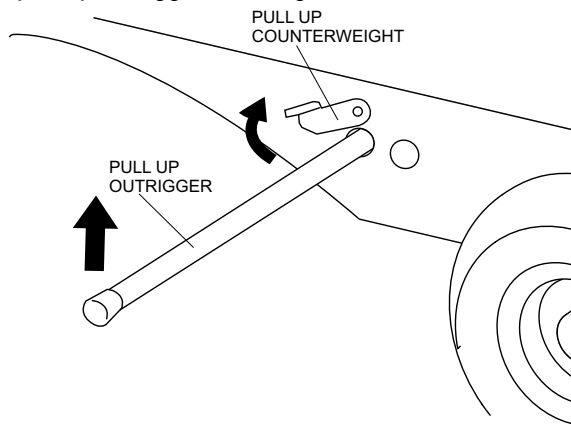

Figure 16. Stowing Outrigger
1. Pull up the counterweight to unlock the outrigger and pull up outrigger. See Figure 16.